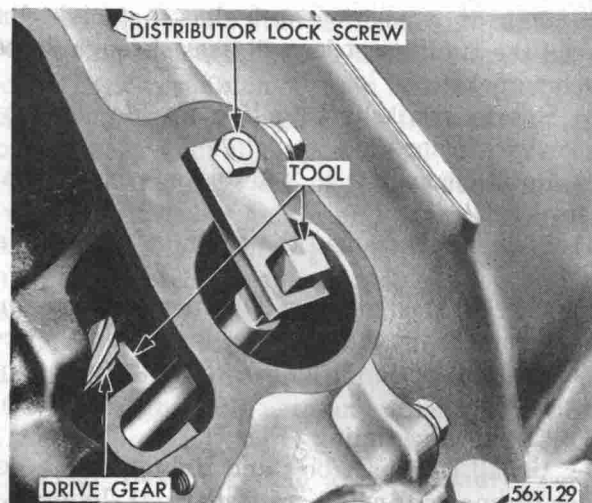

Fig. 5—Camshaft Holding Tool
When installing the timing chain, use Tool C-3509 to prevent the camshaft from contacting the Welch plug in the rear of the engine block. Remove the distributor and the oil pump-distributor drive gear. Locate tool against rear side of cam gear and attach the tool with distributor retainer plate bolt (Fig. 5).
(1) Lubricate the cam lobes and bearing journals before inserting the camshaft.
(2) Install Tool C-3509 with tongue back of distributor drive gear (Fig. 5).
(3) Push camshaft into final position.
(4) Keep tool in place until sprockets and chain have been installed. Complete installation as de-